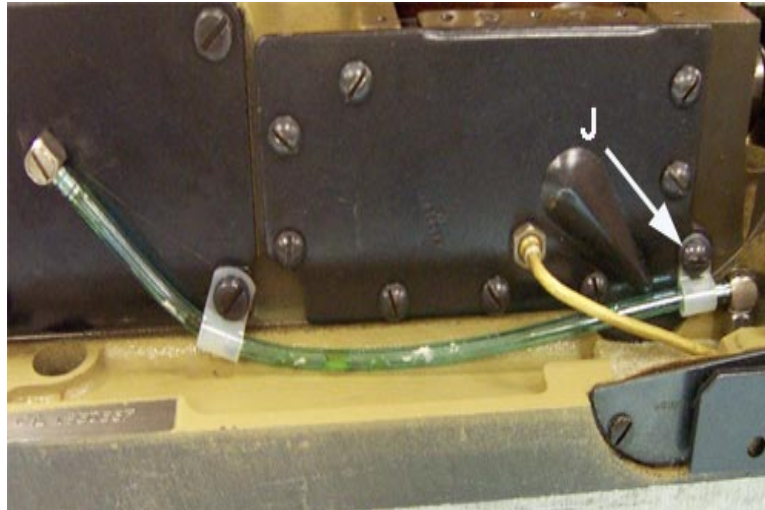

Fig 13
9) Run the oil tube along the back of the machine and under the brass oil tube. (fig 13). Remove screw **J** from the back reservoir cover and slide the screw into the white oil tube clamp. Replace screw with clamp, snug but do not tighten at this time.